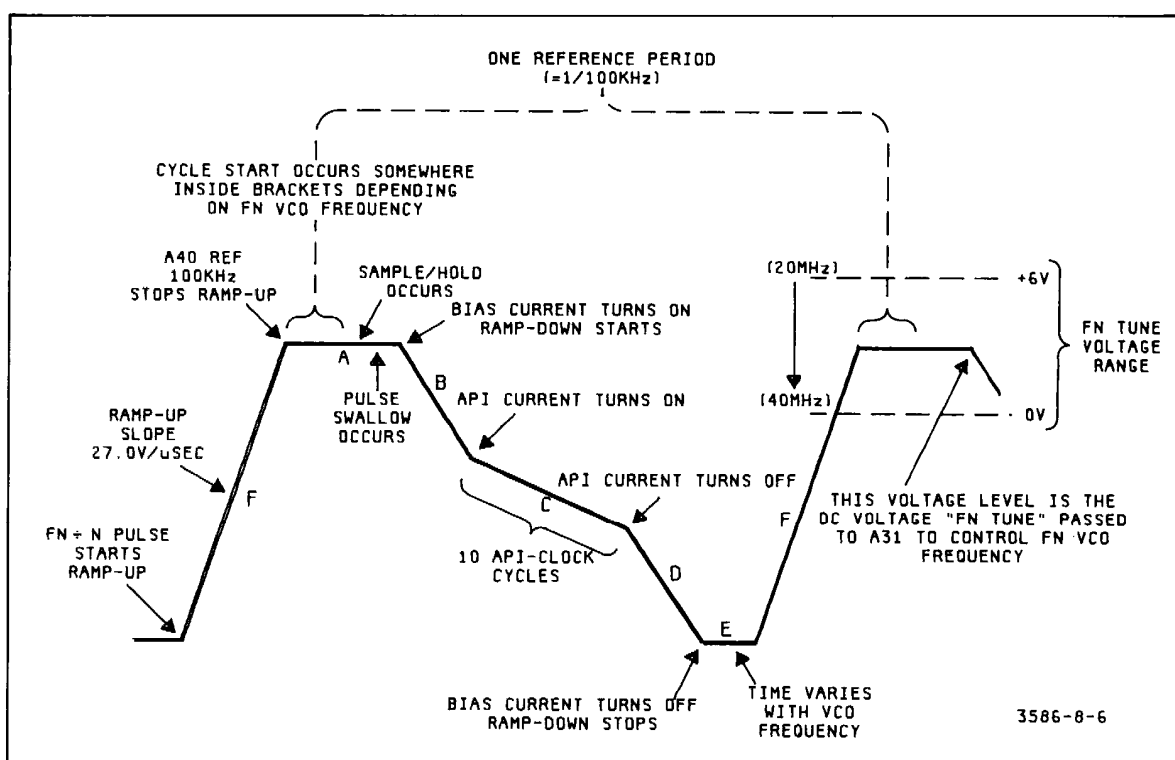

Figure 8-7. Fractional-N Integrator Output (A32TP2).
8-226. Fractional-N Phase Detector (A32). The A32 FN Phase Detector compares the phase relationship of a frequency-variable 100 kHz signal from the FN $\div N$ A30 board to a stable 100 kHz reference signal from the A40 board. A negative-going pulse is then generated, whose width is the time between leading edges of the two input signal pulses to U1. This pulse controls the ramp-up time of an integrator circuit to generate the control voltage for the FN VCO. The ramp-down time of the integrator, in between reference pulses, is initiated by the turn-on of a fixed Bias current that is modified by five control currents. These currents perform a function called Analog Phase Interpolation (API). The current sources and associated switches are called API's. The on/off signals for the control currents come from a Fractional-N chip on the A30 board and are labeled API-1 through API-5. Control of these five currents enables the precision tuning of the FN VCO in 1 Hertz increments. A Sample/Hold circuit keeps the changing integrator output from modulating the FN TUNE voltage. When the ramp-up is complete, the voltage on the integrator is sampled and then passed to the FN VCO. See Figure 8-7 for a graphic representation of the output voltage from the integrator.
8-227. The 100 kHz input pulse from the FN $\div N$ normally arrives at U1 before the reference input pulse. The outputs of U1a are switched by this pulse through Q1 and Q2 to turn Q3 off and Q4 on. TP8 now goes LOW, turning CR3 off and starting the "ramp-up" time of the integrator. When the 100 kHz reference pulse arrives at U1b, U1a is reset, Q1 and Q2 are switched again, Q3 turns on and Q4 turns off. TP8 now goes HIGH, CR3 turns on and ramp-up stops. The integrator now has a constant output as shown by the flat portion (A) in Figure 8-7 and this level is sampled and passed to the FN VCO. U1b will be reset by the next pulse from A30.
8-228. When the BIAS line goes HIGH at U3(14) and the LATCH CLOCK triggers U3, the "ramp down" time begins. The first part of the ramp-down current shown (B) in Figure 8-7 is Bias current only applied to the integrator. All ramp-down current flows into U5. The LATCH CLOCK is now triggering U3 at the rate $FN \text{ VCO} \div 10$, called "API Clock". At all times other than during ramp-down, LATCH CLOCK is held HIGH by the LOW present on the BIAS line (on the A30 board). After several API Clock pulses, a pre-determined (see $FN \div N$ discussion in paragraph 8-233) combination of API lines 1 to 5 are switched to modify the Bias current with API current as shown at (C) in Figure 8-7. The selected API current-sinks absorb a precise amount of the Bias current so that the slope of the integrator ramp-down is decreased. Each API current-sink absorbs 10 times more current than the one next to it with API-1 absorbing the most and API-5 the least. These current sinks are turned on and off by the outputs of U3 and Q18-Q20. This API-current cycle lasts for 10 pulses of the API Clock. Each current-sink may be on for 0-9 of the 10 pulses so that any numerical combination from 0 to 99,999 is possible.